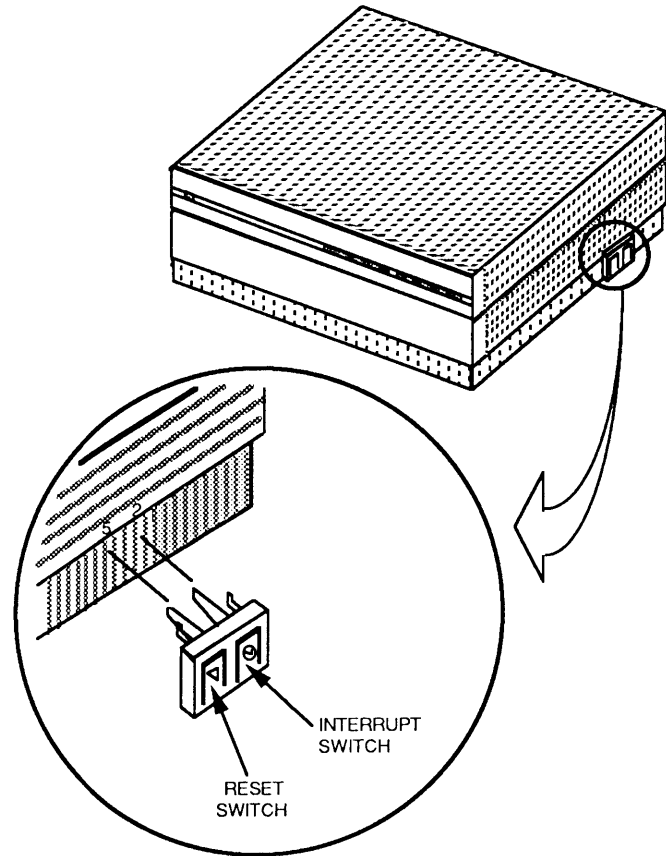

Figure 3-7
10. Verify that the programmer's switch (Figure 3-7) is installed. With the front of the Macintosh II or Macintosh IIfx (UUT) facing you, insert the two long tabs of the programmer's switch into the 2nd and 5th **open** slots from the back, along the right side of the UUT. Push the switch until it snaps into place or you are certain it is secure.
4. Power on the UUT. If you hear **only** the boot tone (a single chord), you are **not** in interrupt mode. To get into interrupt mode, wait until an arrow appears in the upper left corner of the UUT screen (about 4 seconds per megabyte of installed memory), and then press the interrupt switch (see Figure 3-7). When in interrupt mode, or test mode, the UUT can respond to information received over the communication port.